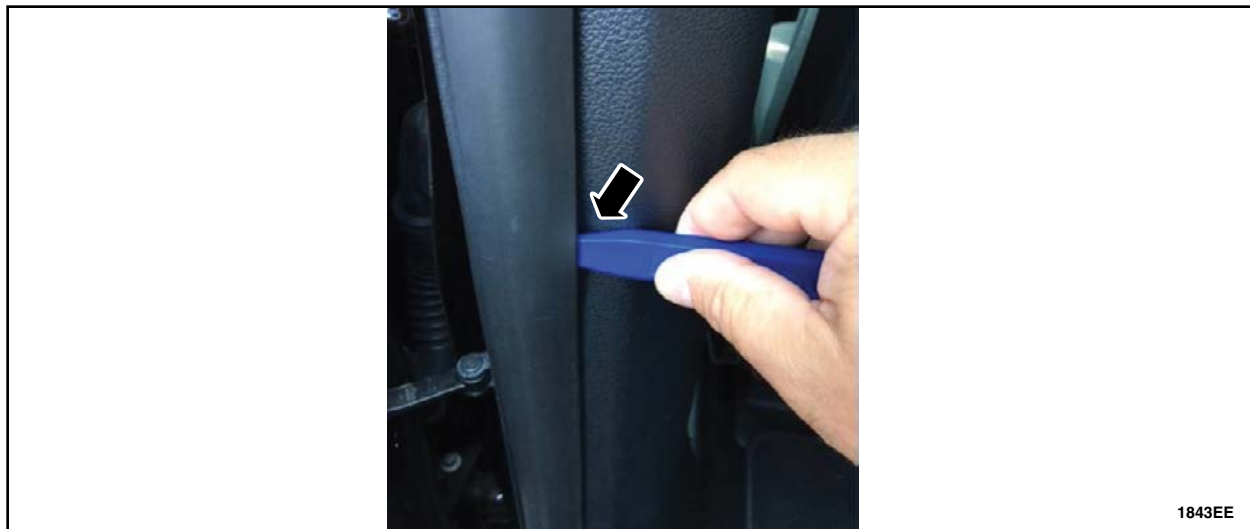

FIGURE 22
4. Use a plastic trim tool to correct any areas where the door weather stripping may be pinched behind the installed B-pillars. See Figure 22.